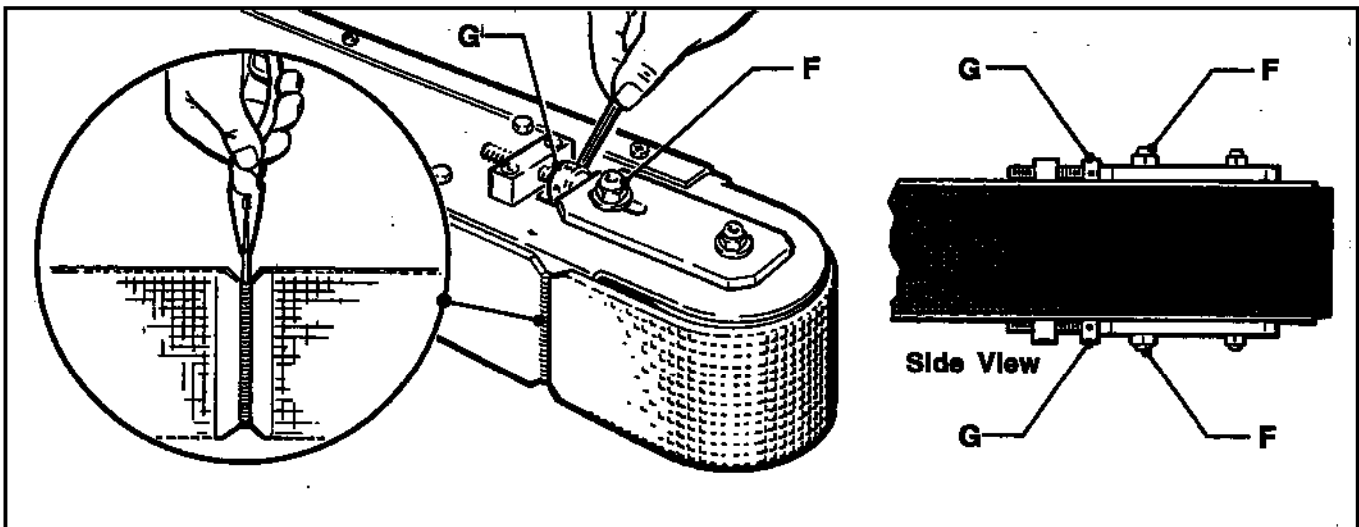

Figure 4-5 – Box Drive Belt, Lower
- Loosen, but do not remove the lock nut (F) on both upper and lower belt tension assemblies. See Figure 4-5.
- Turn belt adjustment screws (G) clockwise on both the upper and lower tension assemblies to loosen belt.
- Install new drive belt around drive rollers and install pin as shown in Figure 4-5. Pin must not extend beyond edge of belt.
- To adjust drive belt tension, turn adjustment screws (G) equally on both the upper and lower tension assemblies. Turn screws counterclockwise to increase tension or clockwise to decrease tension.